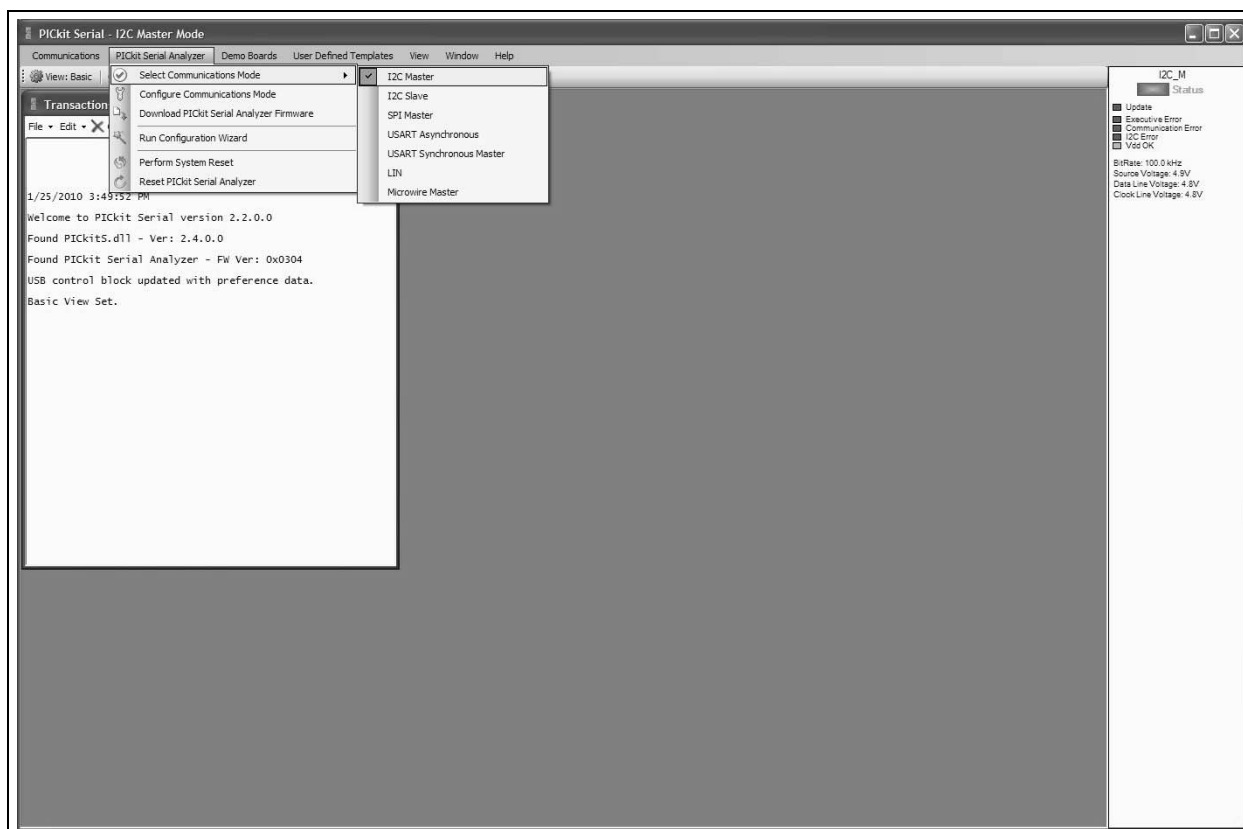

FIGURE 2-7: PICkit™ Serial Selecting Communications Mode.
We need to select the PICkit Serial Analyzer GUI to be in I2C Master mode. Figure 2-7 shows how to select the proper mode. Select *PICkit Serial Analyzer -> Select Communications Mode -> I2C Master* menu item (make sure the I2C Master item is checked).
5. Ensure the GUI is in Master I²C communication mode (see Figure 2-7).